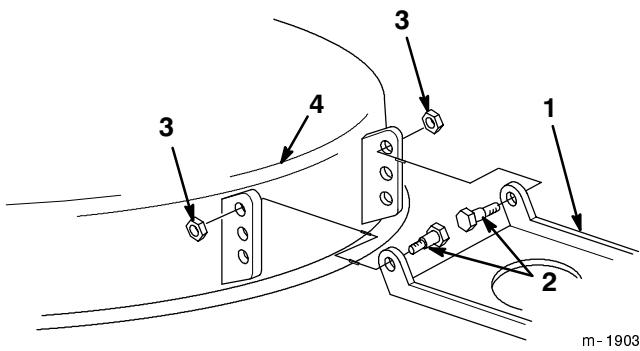

Figure 49
- If the 1/4" to 5/8" (6.350 mm to 15.875 mm) front slope cannot be achieved by rotating the slope adjusting nut, move the mower pivot mount at the mower (Fig. 49).
- Remove the shoulder bolts and lock nuts from the mower (Fig. 49).
- Lower the mower pivot one hole and install the shoulder bolts and lock nuts (Fig. 49).